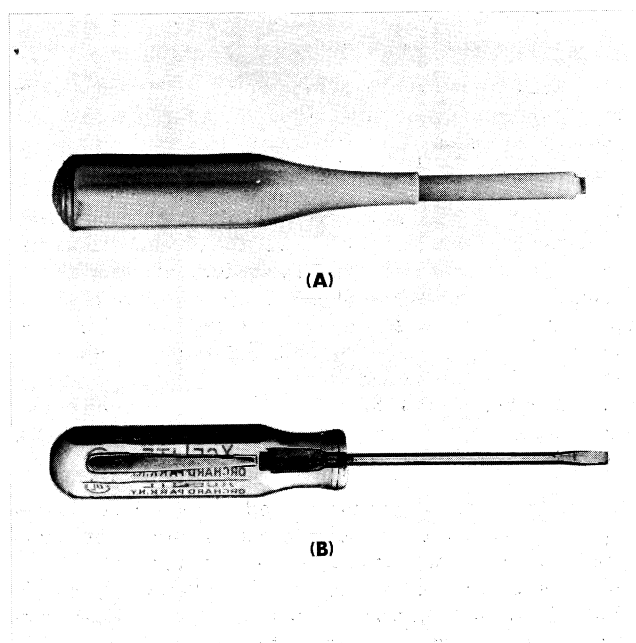

Fig. 6-2. Adjustment tools.
13. Adjustment tools (see Fig. 6-2).